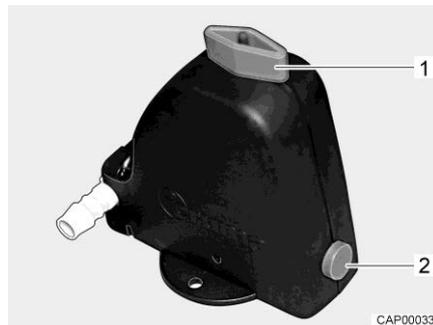

Fig. 261 Safety/drainage valve (Truma)
- Open the safety/drainage valve (Truma). To do this turn the knob (Fig. 261,1) parallel to the safety/drainage valve. The push button (Fig. 261,2) jumps out.